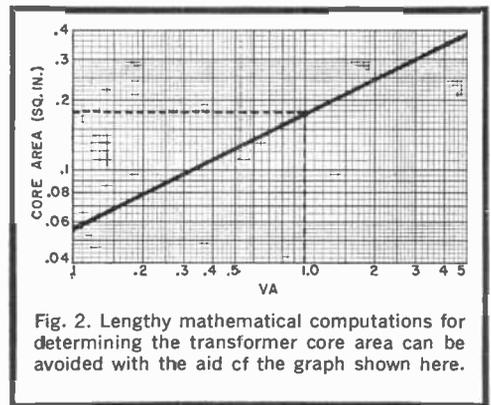

Fig. 2. Lengthy mathematical computations for determining the transformer core area can be avoided with the aid of the graph shown here.
First calculate the core area required. Note, however, that the core area applies only to the cross-sectional area of the core's center leg as shown in Fig. 1. Referring to Fig. 2, we find that the graph shows an approximate core area of 0.18 sq in. will suit our requirements. (We can use an approximation since the actual core area is not too critical.)
**Step (1).** Refer to the catalogs for all available data (such as primary and secondary impedances and power and voltage ratings) concerning the transformer needed.
**Step (2).** Determine the transformer core area; from the transformer power rating (VA), area is equal to the square root of VA divided by 5.58. A quicker method is to refer to the graph in Fig. 2. Read up from the selected volt-amperes figure to the diagonal line, project to the left and read the core area in square inches.
**Step (3).** Calculate the turns ratio. From the impedance ratio, the turns ratio is equal to the square root of ( $Z_1/Z_2$ ), where  $Z_1$  is the larger and  $Z_2$  the smaller impedances.
**Step (4).** Determine the voltage for which the transformer primary is to be used. For single-ended operation, use supply voltage Vcc; for push-pull operation use 2Vcc.
**Step (5).** Compute the size of the wire needed for the primary turns. Using the transformer power rating and the d.c. operating voltage (Vcc), primary current equals VA/Vcc. For audio service, a minimum of 600 circular mils/ampere is recommended; winding space permitting, it would be better to figure on using 700-1000 circular mils/ampere. A center-